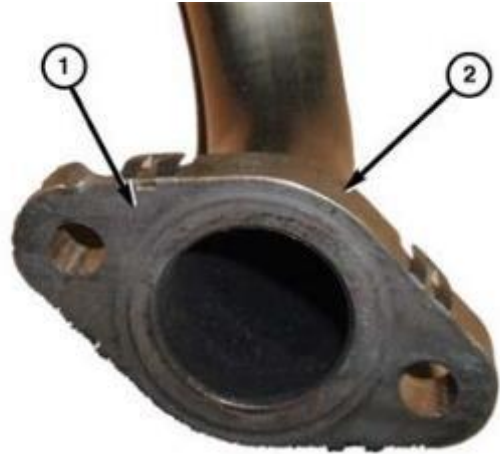

Figure 20 – Upper EGR Tube Gasket
46. Install a **NEW** EGR tube gasket (1) (Figure 20).